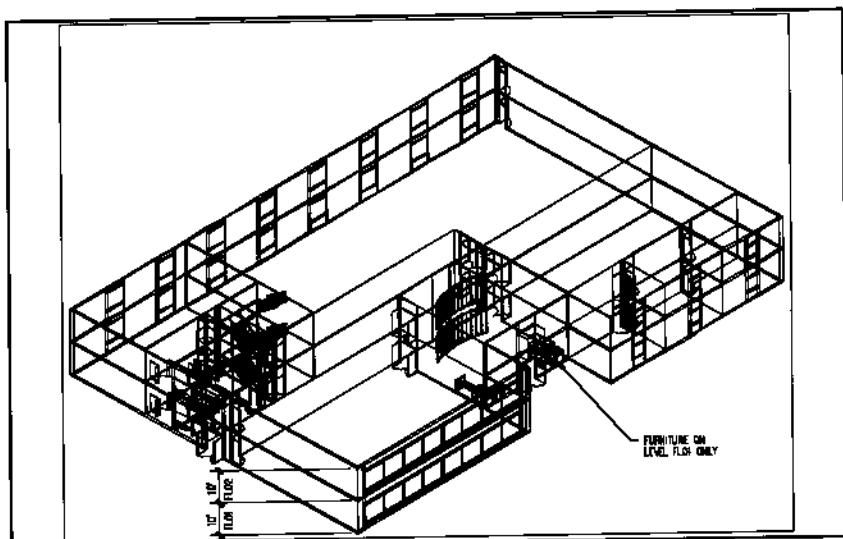

Figure 15.
6. An enlarged isometric view of FL01 and FL02 is shown in Figure 15.